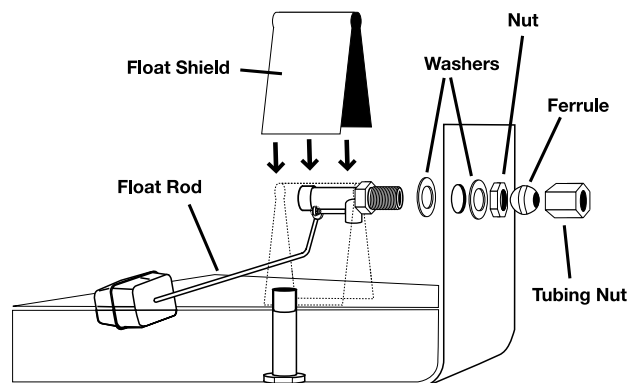

FIGURE 6
Connect Water Supply: Connect water line to cooler as follows (See Figure 6):
- When float valve shuts off, check water level. Water level should be from 1/2" to 1" below top edge of overflow stand-pipe. It may be necessary to adjust float valve by bending the rod (See Figure 6).
Install Float Shield: Install shield over float valve as shown in Figure 6.